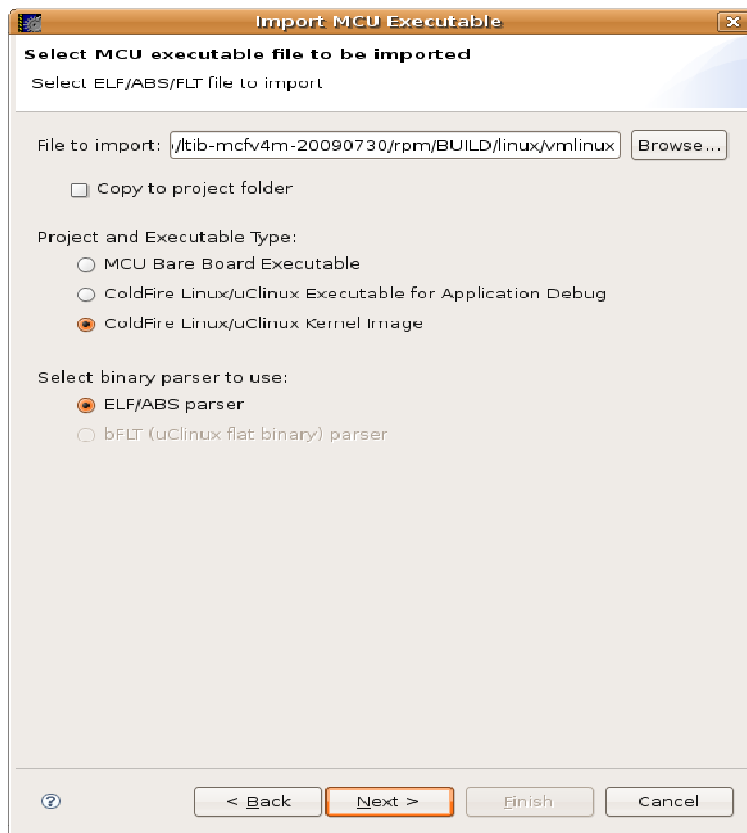

Figure-12 Select MCU executable file
5) In the File to Import text box, specify the path of kernel ELF file from kernelsource directory. Please refer to Figure-12. Click Next.